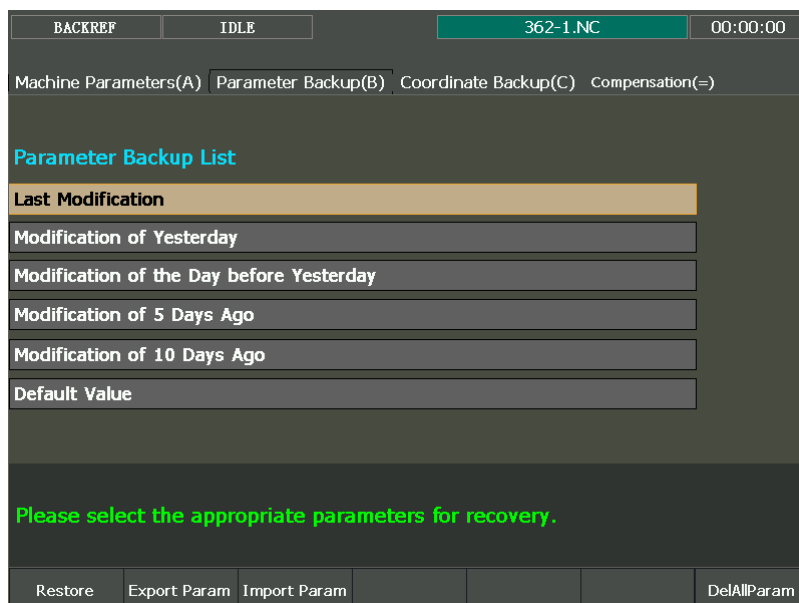

Fig. 3-75 Parameter auto backup
[Parameter Backup (B)] sub-function screen under [Parameter] function section is as shown in Fig. 3-75: in this screen, press “↑” and “↓” direction keys to select an effective backup parameter, and then press F1 and F7 to restore or delete the selected backup parameter. By pressing F2 and F3 respectively, the selected backup parameter can be exported to the USB device or the parameter in the USB device can be imported to the system.